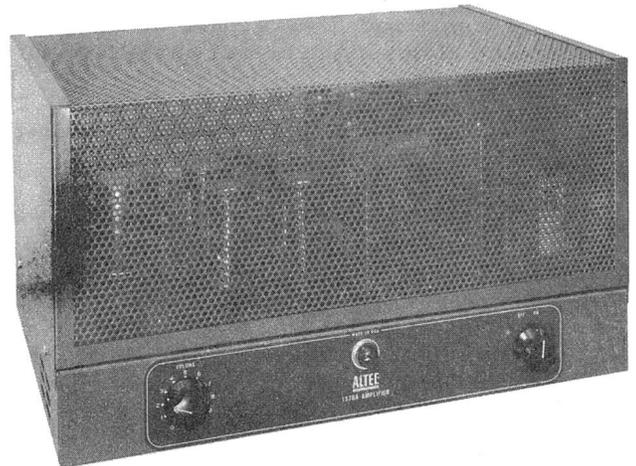

Figure 22 - Altec-Lansing 1570A Power Amplifier
3.42 The Altec-Lansing 1570A power amplifier is shown in Figure 22.